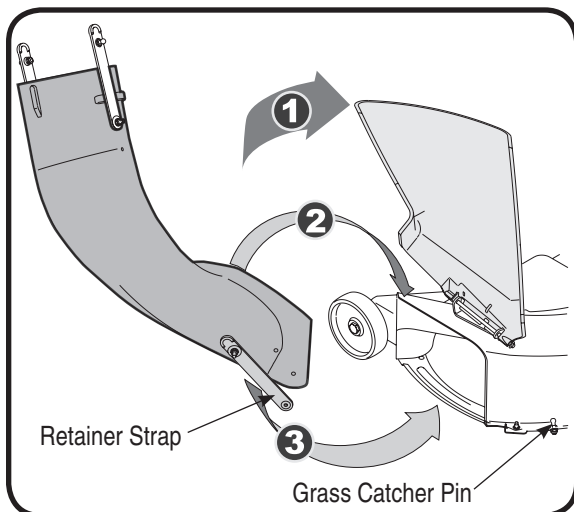

Figure 24
4. Push down on the discharge chute so that its front bottom edge rolls around the bottom of the deck, then slide the chute forward to the stop on the deck. See Figure 24.
5. Lock the discharge chute in position by hooking the retainer strap over the grass catcher pin on the deck. See Figure 24.